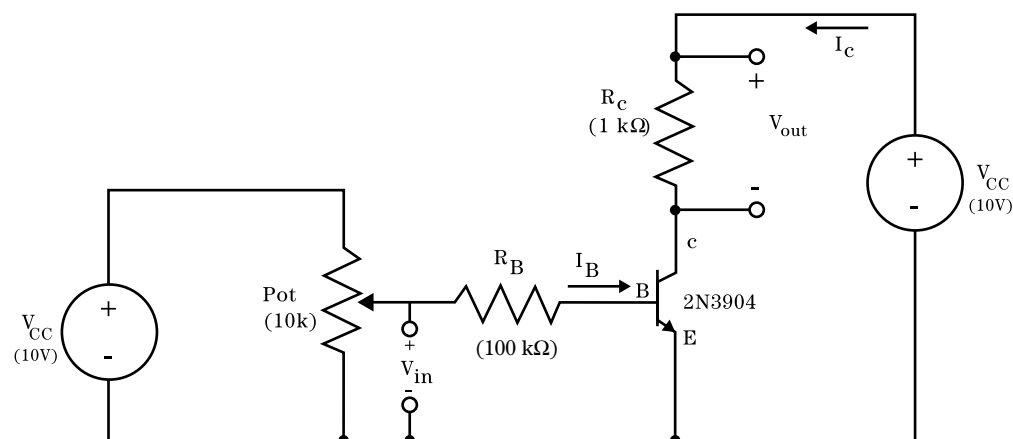

Figure 1
Read Sections 4-1 to 4-3 in the textbook* on dependent sources and transistors. Assume the transistor you will be using has a nominal β of 200. The transistor will enter the active region when V_{in} reaches the turn-on voltage V_T . For the circuit of Fig. 1, calculate the value of V_{in} that will cause the transistor to enter saturation.
- c. On a protoboard, build the circuit of Fig. 1. Turn on the power supply and adjust the potentiometer so that V_{out} is 5 V.
- a. Measure the slope of the line in the active region of the transistor input/output characteristics plot for your particular transistor. Using the measured slope and Eq. (1), calculate the average β . Does this β agree with the β measured in Procedure 2a of this lab?
- b. Draw three schematic diagrams for the circuit of Fig. 1, one for each operating mode, however substitute the large-signal transistor model for the transistor element in each circuit. For all three circuits write two KVL loop equations, one for the base-emitter side (which will include the voltage across R_b) and one for the collector-emitter side of the circuit (which includes the voltage across R_c).